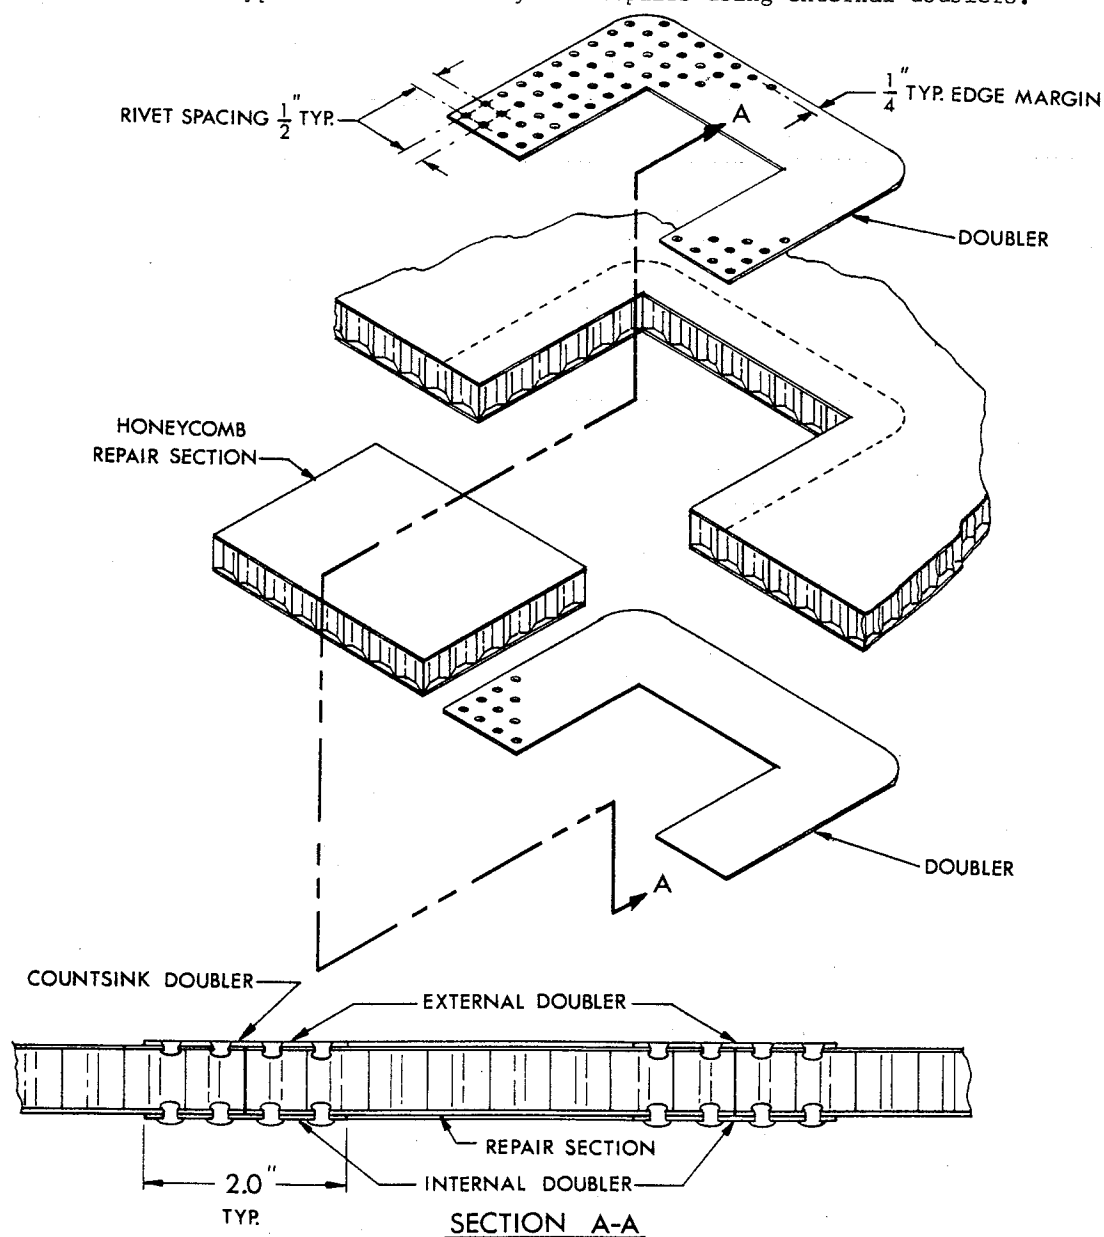
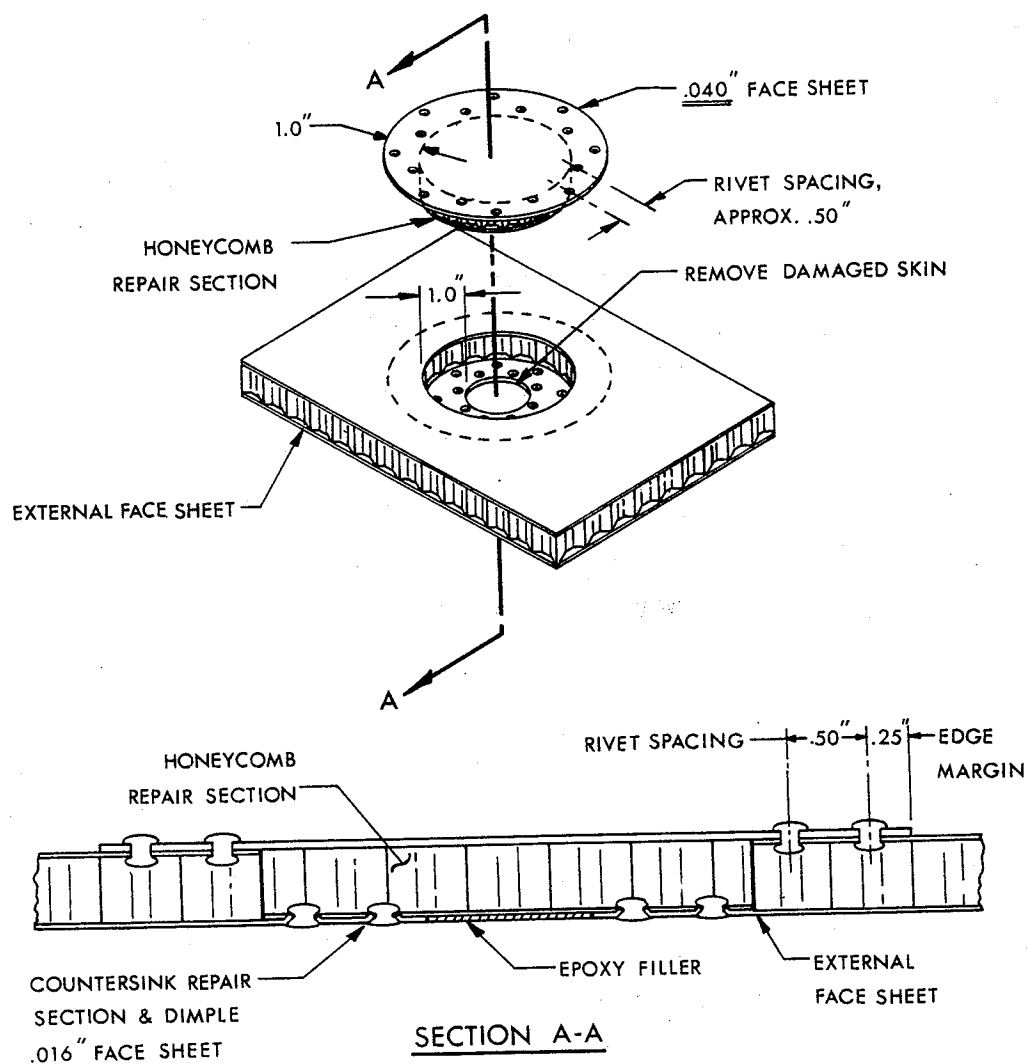

FIGURE 5. Honeycomb Repair, External Doubler (Riveted)
FIGURE 6. Honeycomb Repair, Flush (Riveted)
2. This repair can be made using (a) external doublers as shown in Figure 5, (b) rectangular sections of honeycomb the length of the repair splice similar to section A-A of Figure 6, or (c) the sheet metal pan and doubler method as shown below.